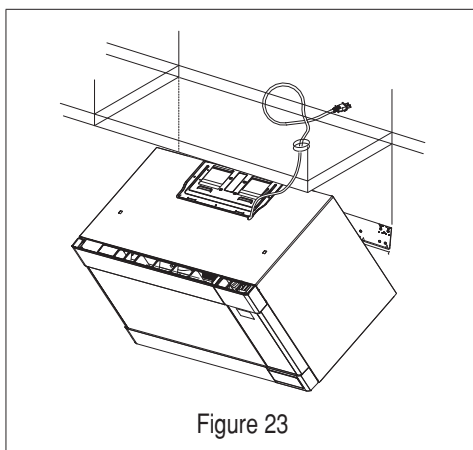

Figure 23
- Thread power cord through the hole at the bottom of the top cabinet. Swing the unit upward to meet the top of the mounting plate and hold it securely. See Figure 23.